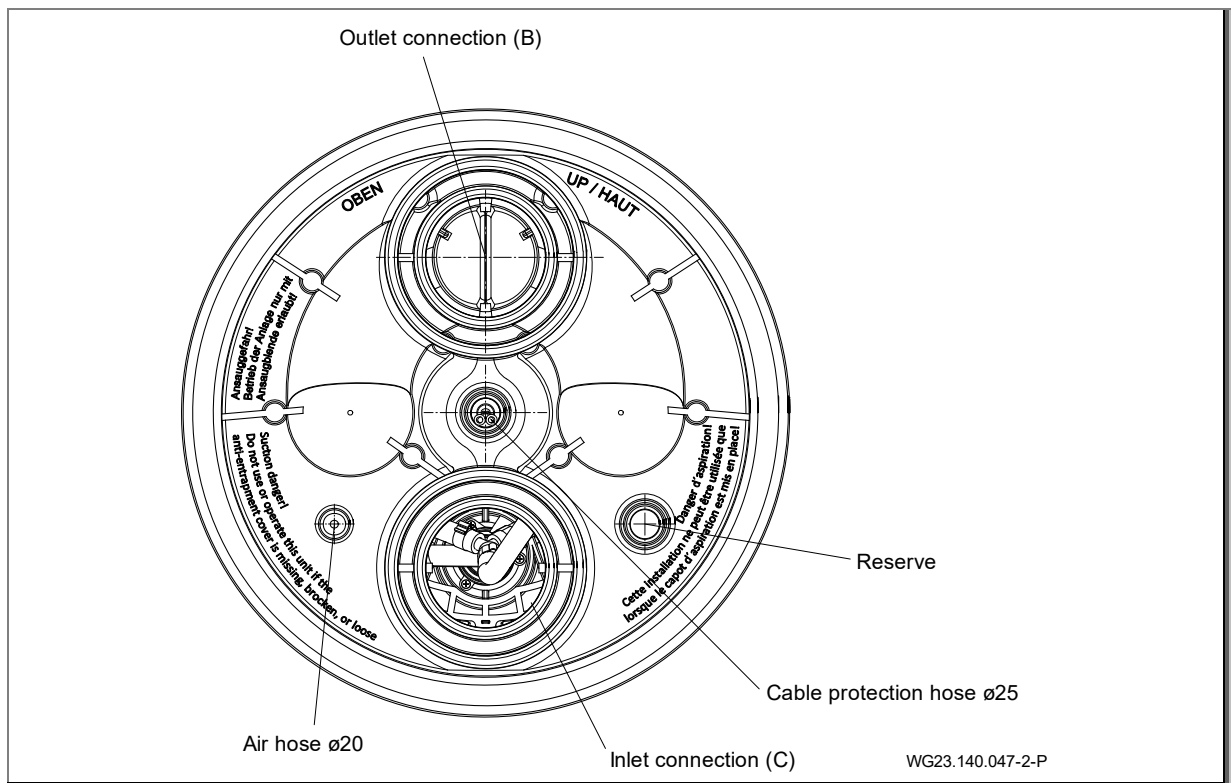

Fig. 17
1. Bond the cable protective conduit and the outer air hose. (Fig. 17)